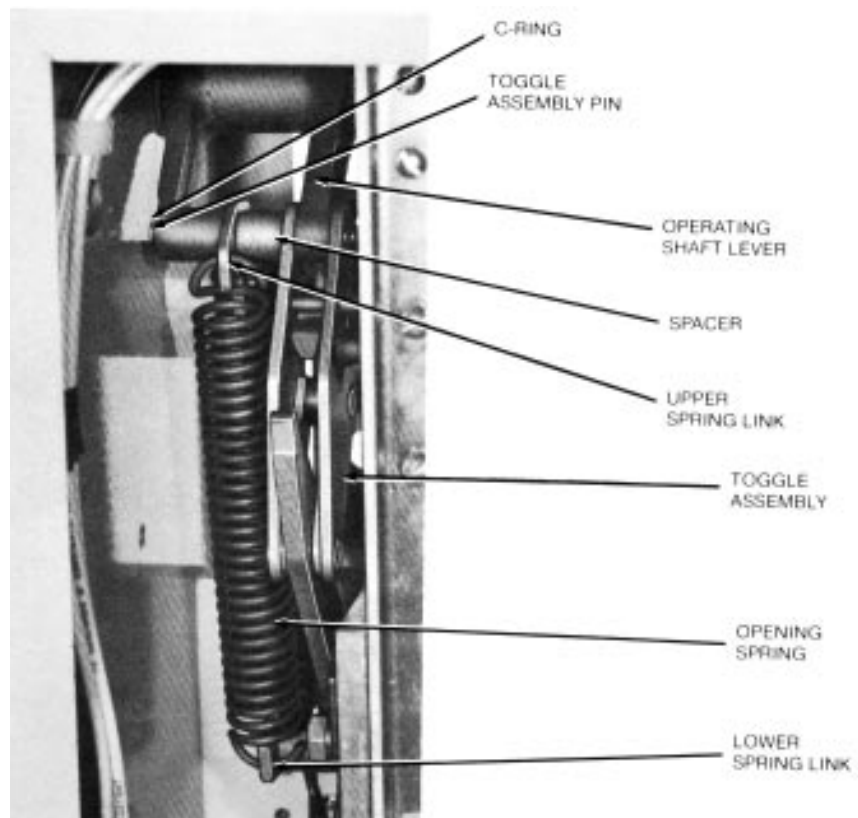

Figure 37.
4. Remove the C ring, identified in Figure 37, to free the toggle assembly pin. Raise the trip lever and pull out the pin, releasing a spacer and freeing the spring link and toggle from the shaft lever.
10. Lift trip lever and insert toggle pin to secure toggle, spacer, and upper spring link to shaft lever. Secure pin with C ring. Attach opening springs to upper spring link. Be sure toggle, spacer, and link are positioned as in Figure 37.